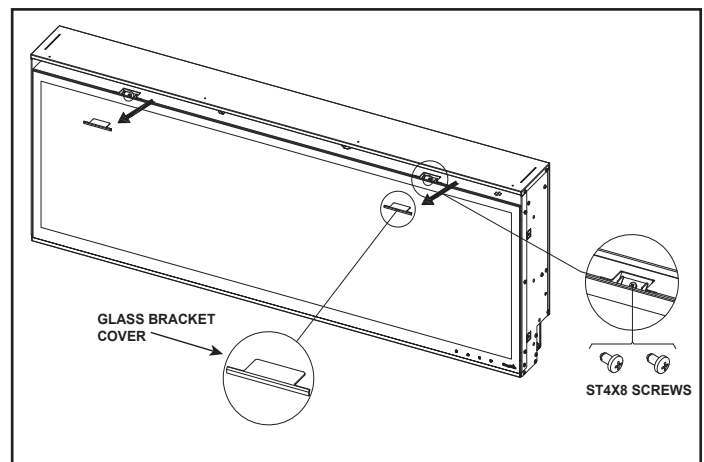

Figure 1 Remove Glass Front
1. Remove the two (2) glass bracket cover (if installed). See Figure 1.
2. Remove the two (2) ST4X8 screws located on the glass panel. See Figure 1.